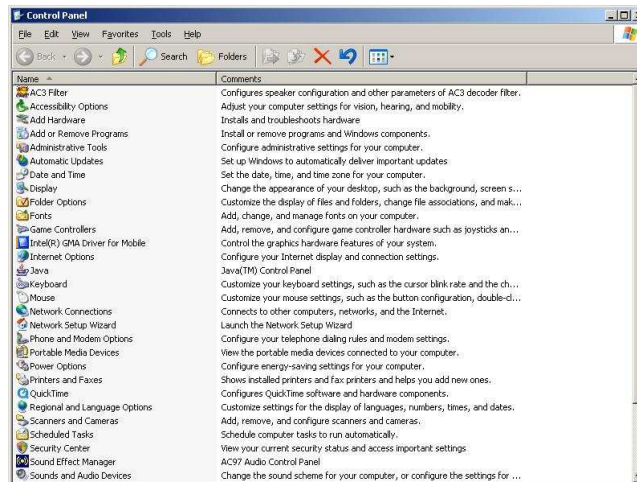

Figure 23: Control Panel
2. Double click on `Control Panel`, obtaining a screen like figure 23.